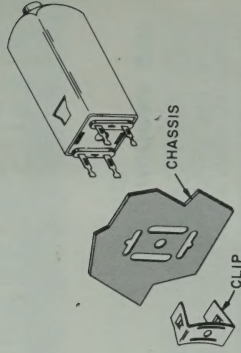

FIGURE 3
- ☒ L-2, output coil in a metal can. **Position with the color dot as shown.** Mount with the "U" shaped clip as shown in Figure 3.